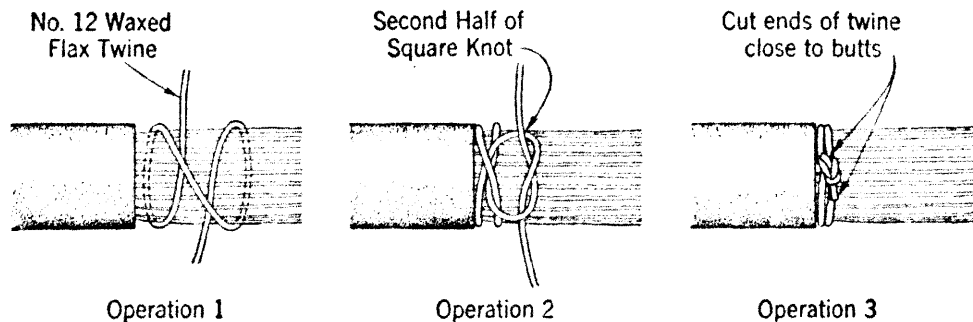

Fig. 2.
3.07 Place a band of No. 12 twine around the butt in the manner shown in Fig. 2.